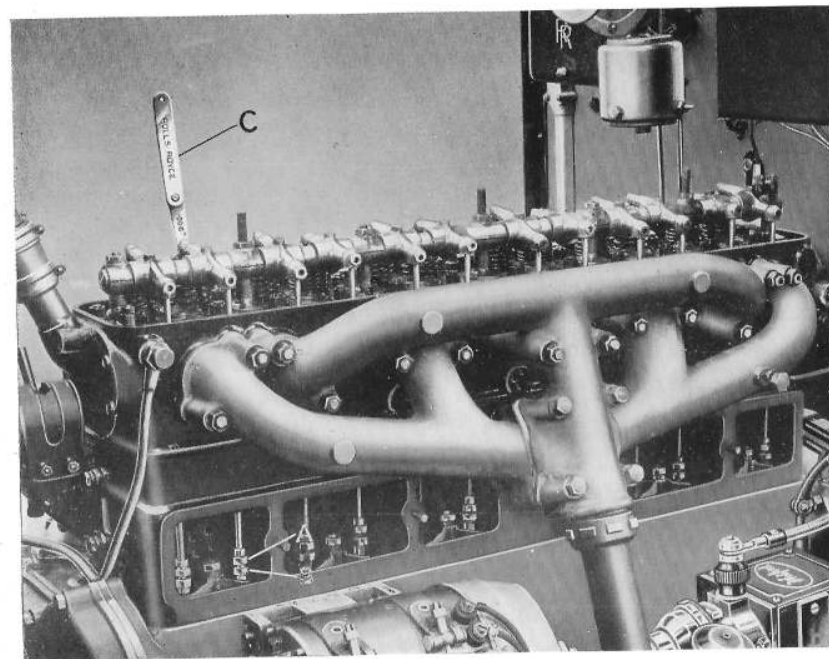

FIG. 18. ADJUSTING THE TAPPETS.
**Reassembling.** Before replacing the rocker shaft, all the valve tappet heads must be screwed down as far as possible by releasing the locknut **B** (Fig. 18), and screwing the head **A** into the tappet. This will avoid the risk of bending the push rods as the rocker shaft is secured in position.
**Adjusting Tappets.** The valve tappets are provided with adjustable heads, access to which is obtained by removing the two covers on the left-hand side of the engine. In Fig. 18 these covers are shown removed for adjusting the tappets.